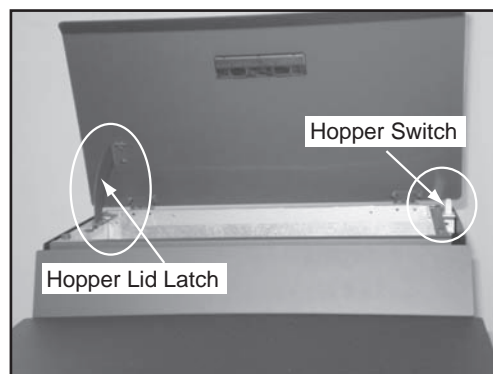

Figure 9.2
2. The hopper switch is designed to shut down the feed motor when the hopper lid is open. Leaving the lid open too long can cause the fire to go out. **Figure 9.2.**